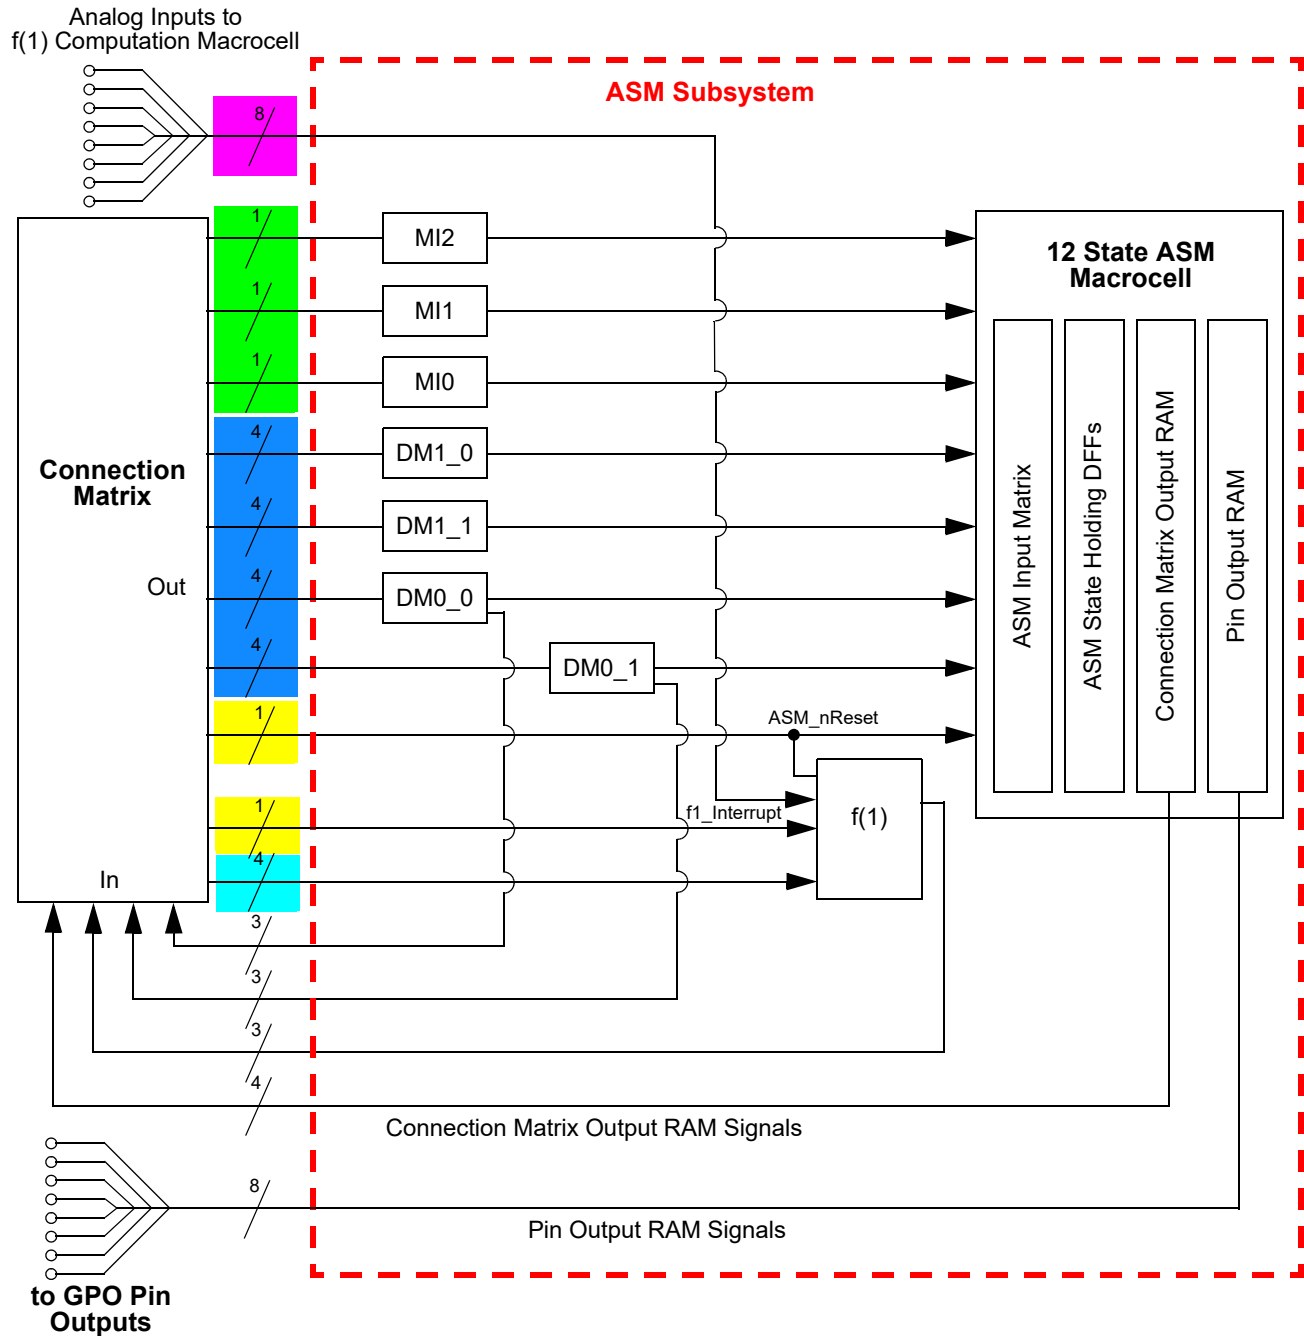
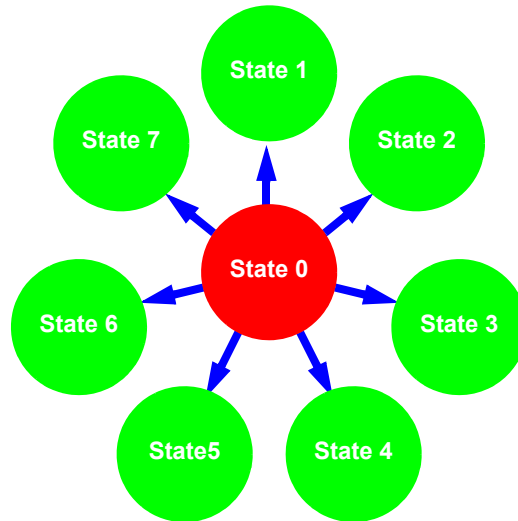
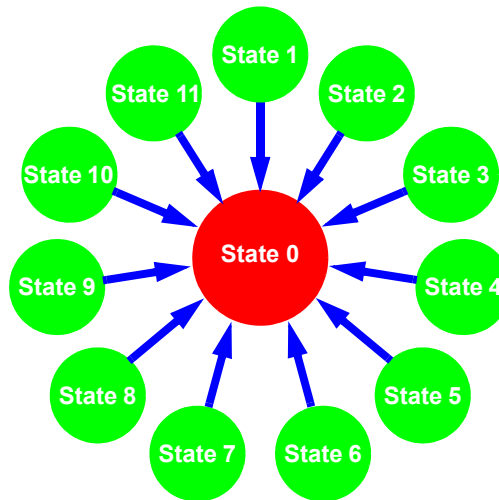

Figure 92: ASM Subsystem Input Signals
Figure 93: Maximum 7 State Transitions out of a Given State
Figure 94: Maximum 11 State Transitions into Given State
The ASM Subsystem has a total of 25 digital input signal lines, as shown in Figure 92, which all come from the Connection Matrix outputs. Of these 25 input signals, 3 are user selectable inputs going directly from the Connection Matrix to the three Matrix Interface (MI) macrocells. There are a total of 16 input signals that go to the DM_x macrocell, four per macrocell. There is 1 ASM_nReset input that is for driving a state transition in both the ASM macrocell and the f(1) Computation Macrocell to an Initial/Reset state. There are 4 digital input signals coming from the Connection Matrix to the f(1) Computation Macrocell. There is also 1 dedicated Interrupt input to the f(1) Computation Macrocell that will halt any active operations and transfer control back to the ASM macrocell. Each of the 25 input signals are level sensitive.
There are a total of 16 digital input signals to the ASM Subsystem which are inputs directly to the DM macrocells. These 16 signals are shown in Figure 92, highlighted in blue. While there are 4 input signals coming from the Connection Matrix and going to each DM_x_x macrocell, there is only 1 output signal from each of these macrocells, which goes directly to the ASM macrocell. There are also 3 signal lines that come directly from the Connection Matrix and go to the three Matrix Interface (MI) macrocells which can drive state transitions. These signals are shown in Figure 92, highlighted in green. This sets an upper bound on the number of transitions that the user can select going **out of** a particular state to be 7, shown in Figure 93. There is no limitation on the number of unique transitions that can be supported going into a particular state, the user can select to have transitions going from a state to all other states, shown in Figure 94. Each of these input signals to the ASM macrocell is level sensitive, and active high. A high level input will trigger a state transition.
There are a total of 8 analog inputs coming from various pins which can be muxed into the positive input for the f(1) Analog Comparator inside the f(1) Computation Macrocell. These 8 signals are shown in Figure 92, highlighted in pink. The f(1) Analog Comparator can be re-programmed for analog input source and negative input reference settings. The user selections for both positive input signal and negative reference are included as part of the information stored in the f(1) Command Register Table. This allows the user to make different analog measurements that are state dependent in their analog sources and reference settings.
The ASM macrocell also has a ASM_nReset input. This input to the ASM macrocell is level sensitive and active low. This signal is shown in Figure 92, highlighted in yellow. An active signal on this input will drive an immediate state transition to the user-defined Initial/Reset state. The user can choose which state within the ASM Editor inside GPAK Designer will be the reset state.
There is also 1 dedicated f1_Interrupt input to the f(1) Computation Macrocell that will halt any active operations and transfer control back to the ASM macrocell. This signal is shown in Figure 92, also highlighted in yellow.